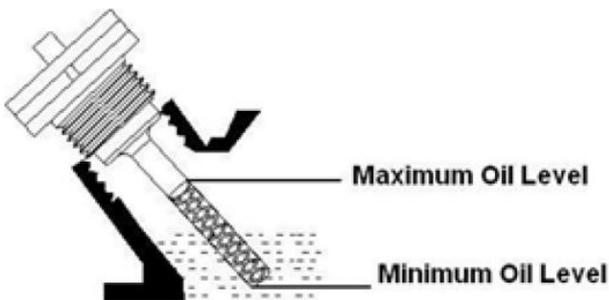

Fig.44 Oil Fill Opening, Dipstick and Oil Level
3. Slowly add more oil and repeat step 2 until the oil mark reaches to the top of dipstick (Fig.44). Do not over fill the crankcase.